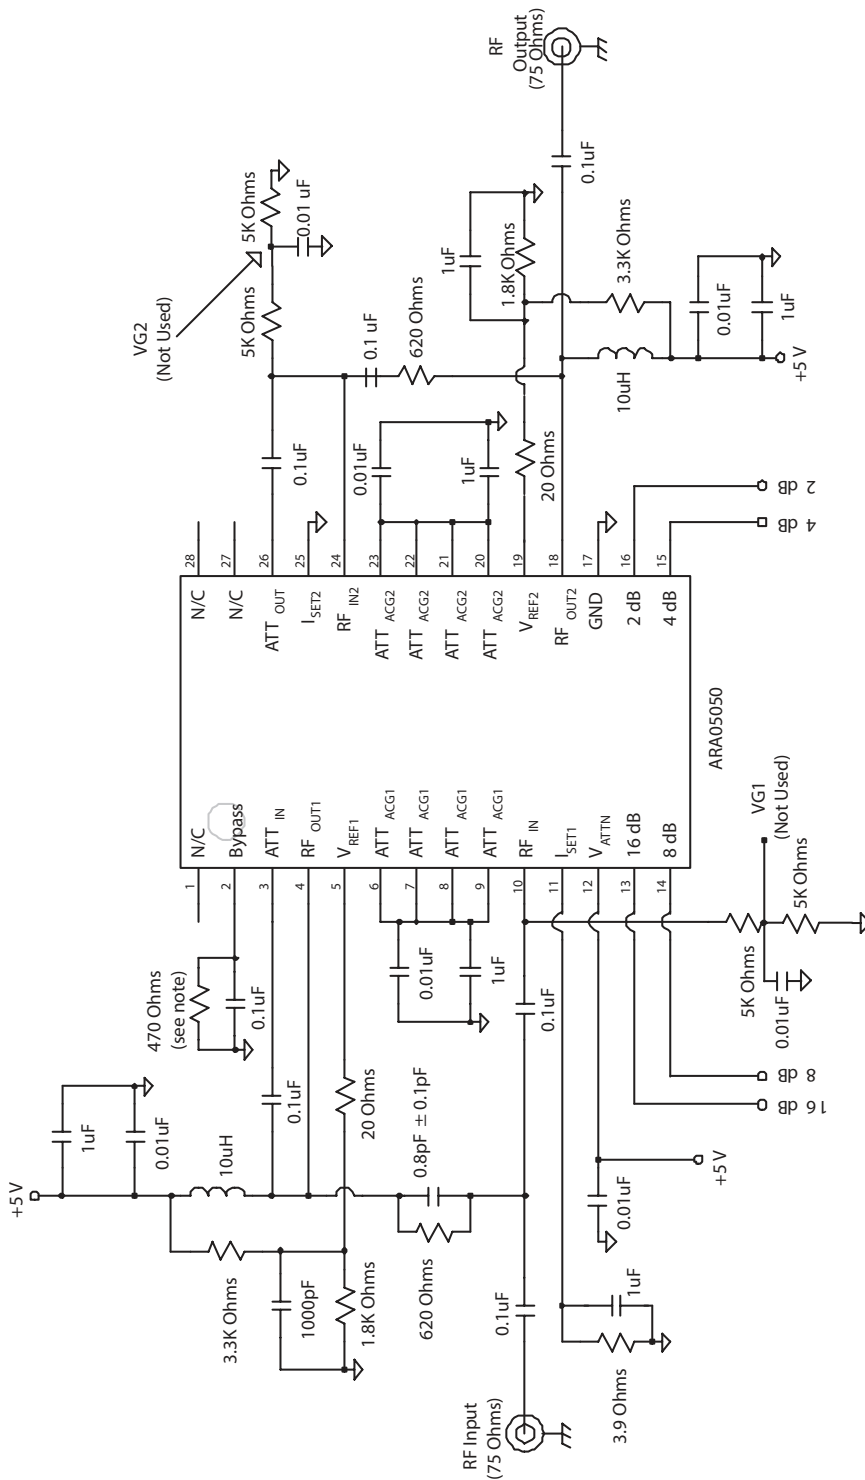

Figure 4: Test Circuit
(1) Specification applies when 470 Ohm resistor is connected from pin 2 to ground (see test circuit in Figure 4).
The ISET pins (11 and 25) set the bias current for the amplification stages. Grounding these pins results in the maximum possible current. By placing a resistor from the pin to ground, the current can be reduced. The recommended bias conditions use the configuration shown in the test circuit schematic in Figure 4.